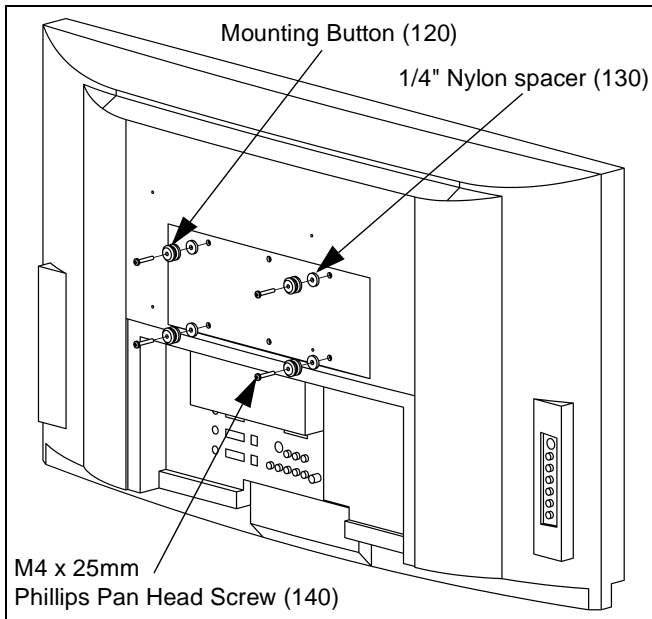

Figure 5: Install Mounting Buttons
2. Place four nylon spacers (130) over mounting holes in display back (See Figure 5).
3. Install four M4 x 25mm Phillips pan head screws (140) into four mounting buttons (120) (See Figure 5) .
4. Install four M4 x 25mm Phillips pan head screws (140) with four mounting buttons (120) through nylon spacers (130) and into mounting holes in display back.